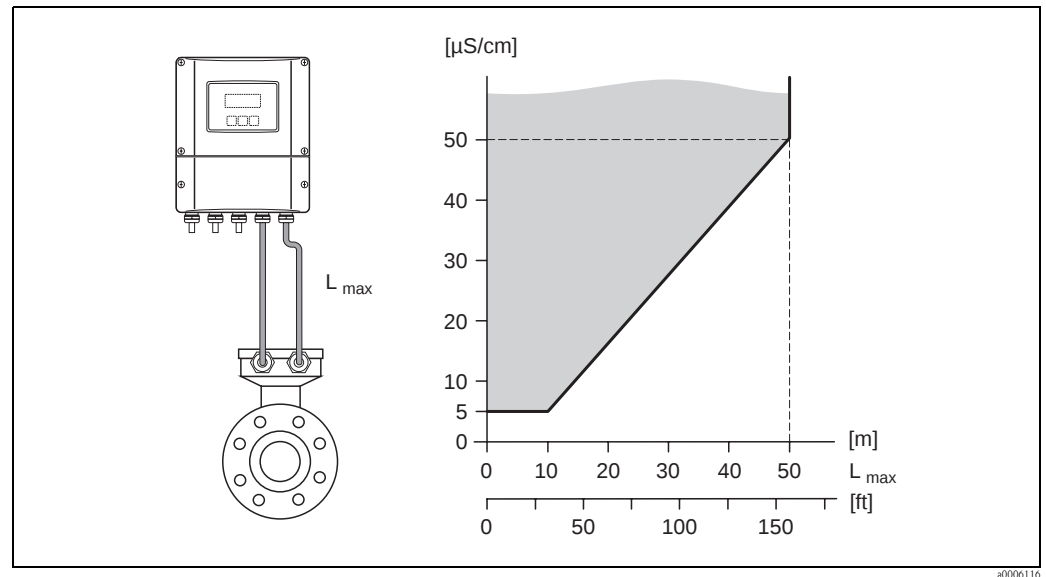
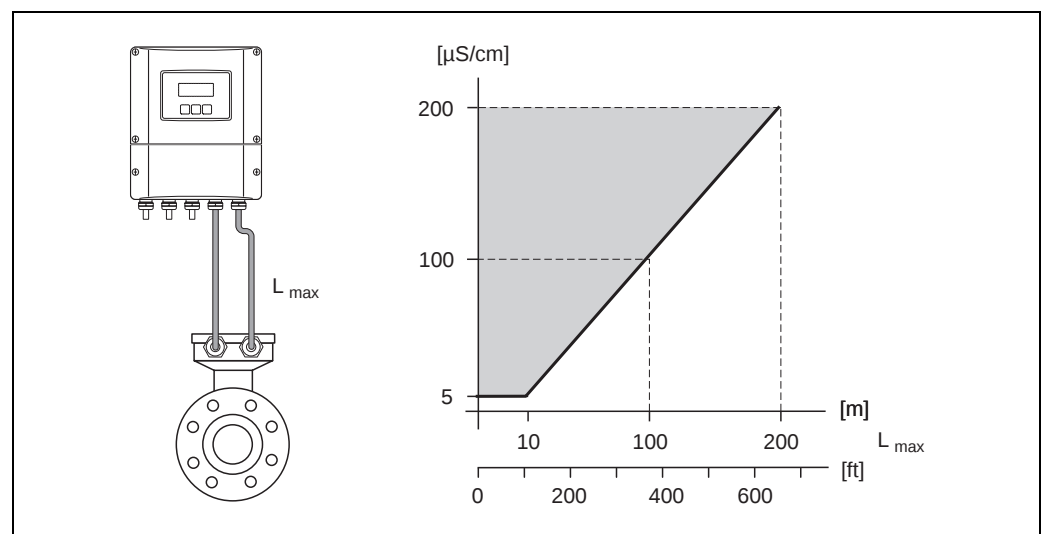

Fig. 16: Permitted lengths for connecting cable in remote version, as a function of the conductivity of the fluid
Fig. 17: Permitted lengths for connecting cable in remote version, as a function of the conductivity of the fluid
- The permissible cable length $L_{\max}$ depends on the fluid conductivity ($\rightarrow$ Fig. 16, $\rightarrow$ Fig. 17).